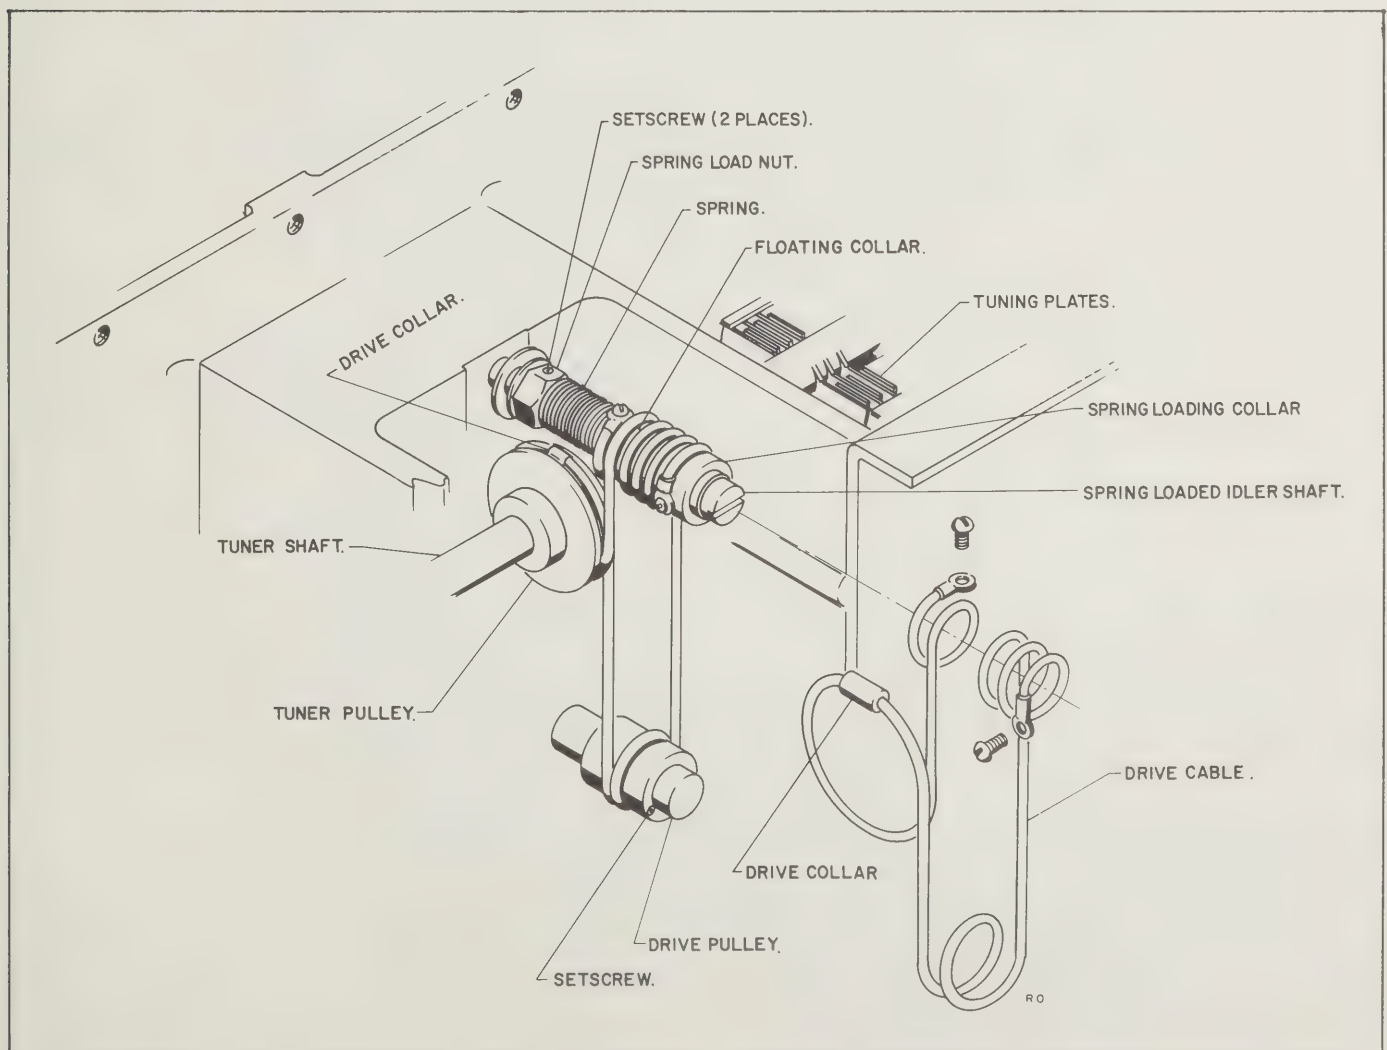

Figure 4-6. Installation of Drive Cable Assembly
c. Refer to figure 4-6. Loosen the two setscrews in the spring load nut and the one setscrew in the end of the drive pulley.
f. Wrap the short end of drive cable around the tuner pulley as shown in figure 4-6. Attach end of
h. Wrap one and a half turns of the drive cable around the drive pulley as shown in figure 4-6.